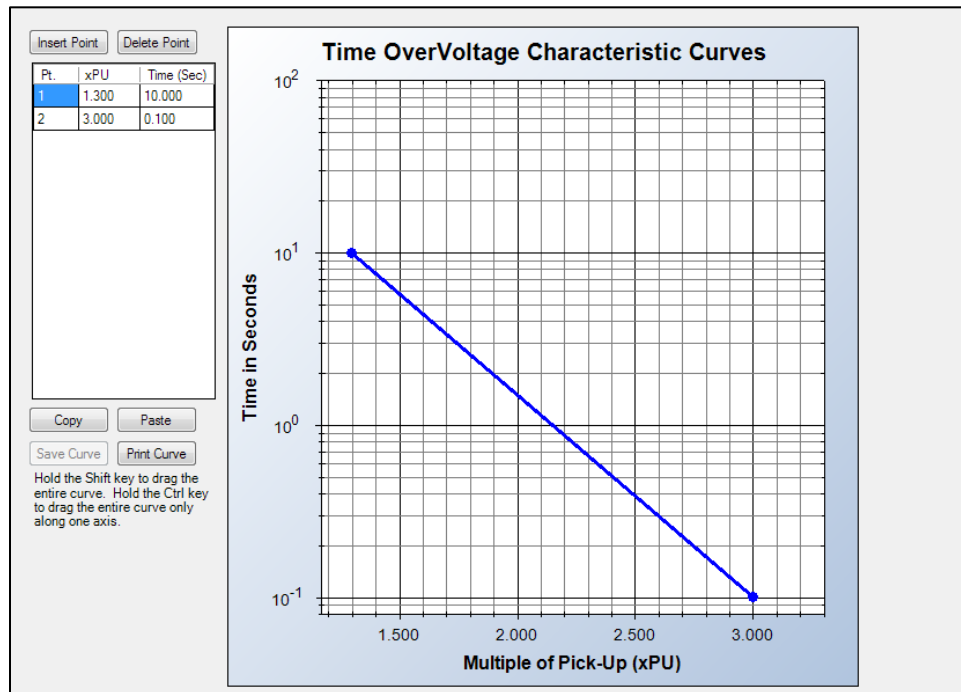

Figure 10-1. Time Overvoltage Characteristic Curves
*BESTCOMSPPlus* is used to set the 27P element Table Curves (T1, T2, T3, and T4). Using the Settings Explorer within *BESTCOMSPPlus*, open the Protection, Voltage, Overvoltage, Table Curves, Table Curve (1, 2, 3, or 4) tree branch and select the table curve to be modified. Refer to Figure 10-1. A minimum of 2 and maximum of 40 points can be entered for any one T curve. When you are satisfied with the values chosen, select Save Curve. Use the Settings Explorer to browse to the 59P-x element you wish to program and use the drop-down menu under Curve to select T1, T2, T3, or T4.